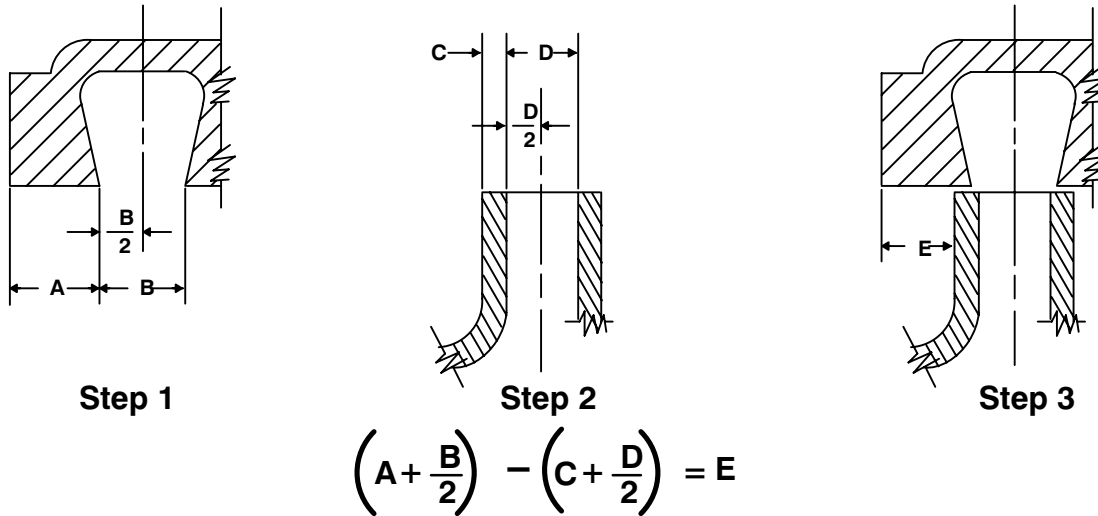

Figure 6. Centering Impeller Within Volute Scroll
Before removing the impeller, turn the cross arm on the automatic lubricating grease cup (5) clockwise until it rests against the cover (see Figure 6). This will prevent the grease in the cup from escaping when the impeller is removed.
To verify the impeller positioning, measure the pump casing and impeller as shown in Figure 6. Use these measurements to calculate the required impeller location (dimension E). Add or remove impeller adjusting shims until dimension E is obtained.